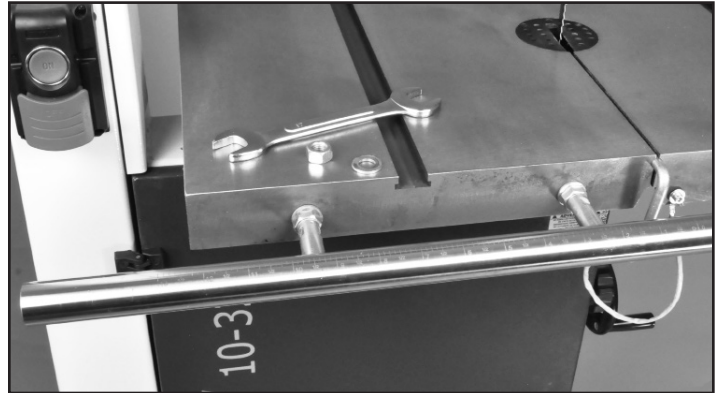

FIGURE 5
1. Mount the fence Guide Rail (#12F) onto the front table edge with the two fence bar Nuts and Washers (#14F, 5F) Fig. 5. Position the bar so that it is parallel with the table surface, and equal distance out from the front edge of the table when measured at both left and right front edges of the table.